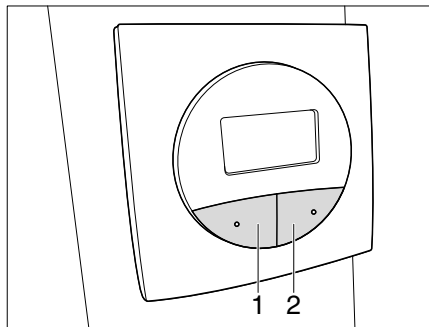

Fig. 45 Teleco satellite unit panel
- Press the SAT button (Fig. 45,2) **twice**. The satellite unit extends and searches for the set satellites automatically.
- Press the PARK button (Fig. 45,1). The satellite unit is retracted.